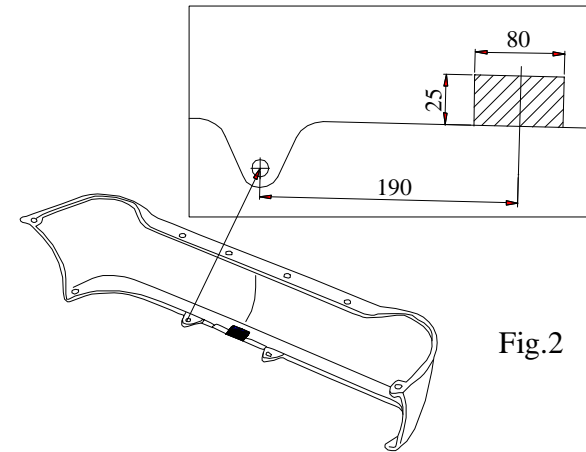

Fig.2
4. Reassemble the muffler and the bumper after cut out his fragment (see fig. 2).
5. Fix body of the automat (pos. 7) using bolts M12x25mm (pos. 5) from accessories. Place tow-ball (pos. 2) according to supplied instruction.
6. Fix the socket plate (pos. 3) as shown on the drawing.